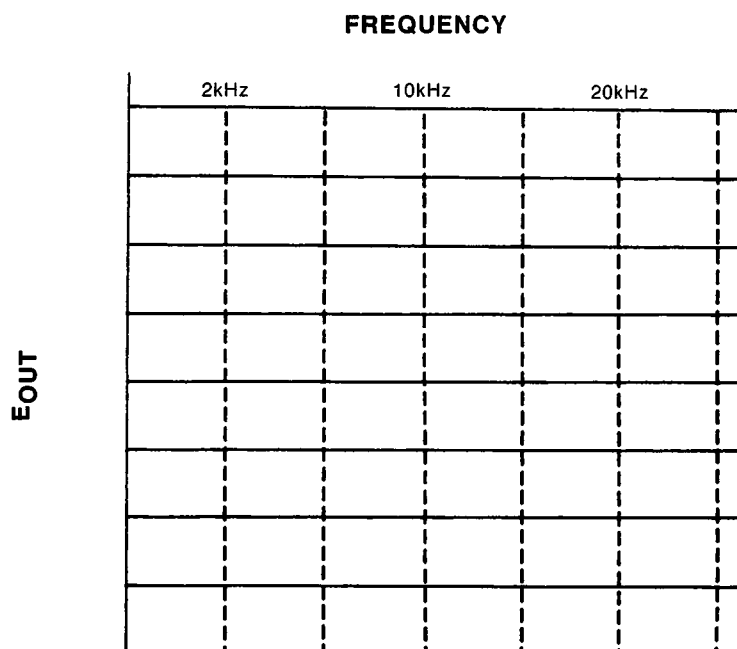

Figure 5-47
20. Connect the voltmeter across R . Use the above procedure to plot the response curve for this circuit on the graph in Figure 5-47.